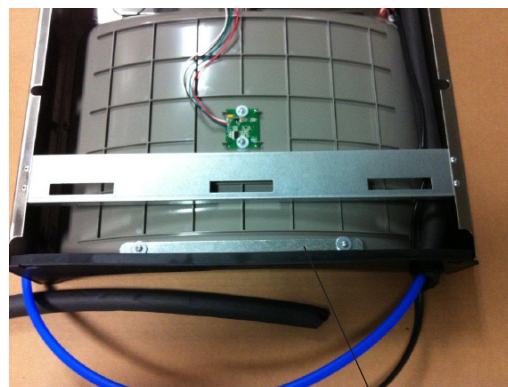

Fig. 11
- 6) **Install gasket on bottom of bottle filler** with gasket support bracket, (2) washers, & (2) screws (See Fig 11).